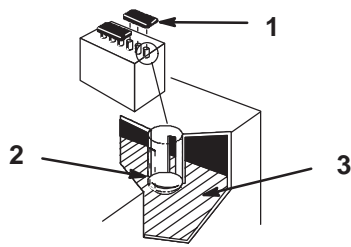

Figure 51
1. Open covers to see into the cells. The electrolyte must be up to the lower part of the tube (Fig. 51). Do not allow the electrolyte to get below the plates (Fig. 51).
2. Lift off the filler caps (Fig. 51).
3. Slowly pour distilled water into each battery cell until the level is up to the lower part of the tube (Fig. 51).